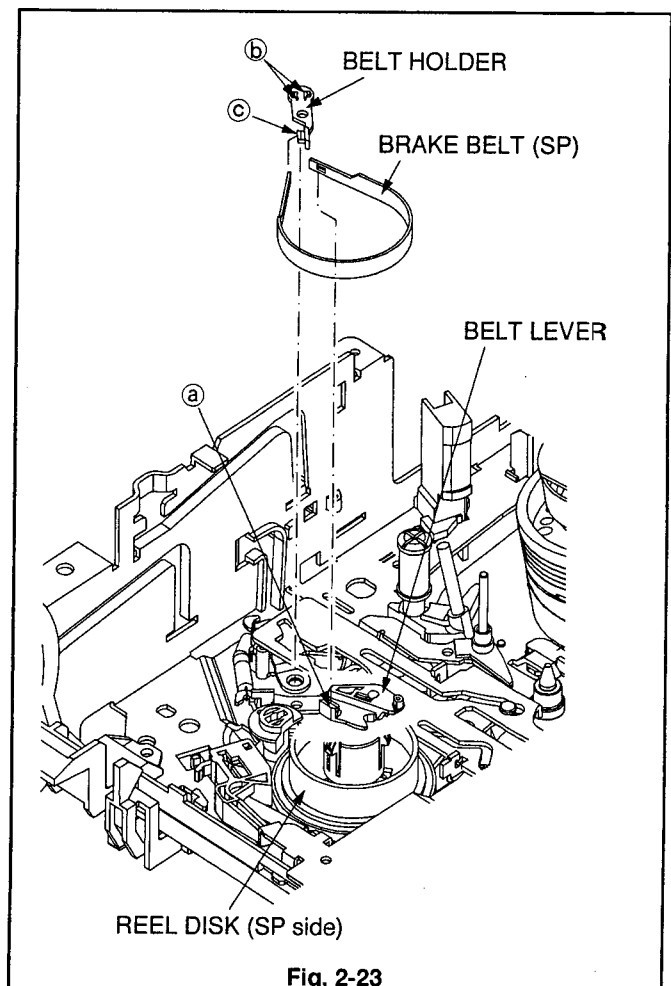

Fig. 2-23
1. Lift the BRAKE BELT (SP) shown in the Fig. 2-23 to remove it from the REEL DISK (SP side).
2. Release the BRAKE BELT (SP) from the catch (a) of the BELT LEVER shown in the Fig. 2-23.
3. Release the two catches (b) of the BELT HOLDER shown in the Fig. 2-23 and separate the BELT HOLDER from the BRAKE BELT (SP).
4. Release the catch (c) of the BELT HOLDER shown in the Fig. 2-23 to remove the BRAKE BELT (SP).
1. Install the BRAKE BELT (SP) shown in the Fig. 2-23 to the catch (c) of the BELT HOLDER.
2. Install the BELT HOLDER shown in the Fig. 2-23.
3. Install the BRAKE BELT (SP) shown in the Fig. 2-23 to the catch (a) of the BELT LEVER.
4. Hook the BRAKE BELT (SP) shown in the Fig. 2-23 to the REEL DISK (SP side).